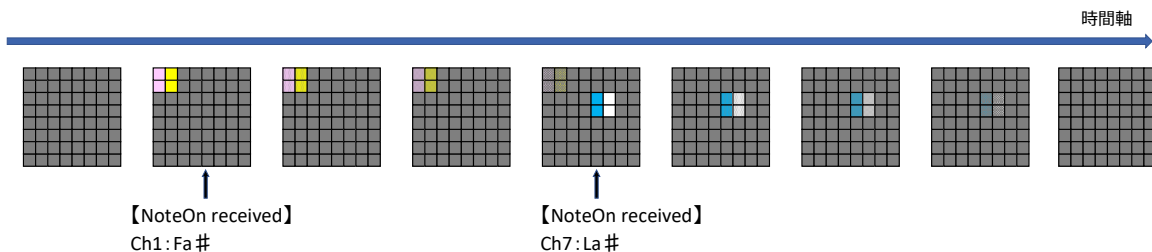

Figure 1-10 Display Example (All MIDI Channels Concurrent Display Mode)
- As shown in Figure 1-10, each time a NoteOn (keystroke) message is received, the colors assigned by note are brightly lit in the LED matrix block assigned by MIDI channel. Then, the LED lights are gradually diminished.